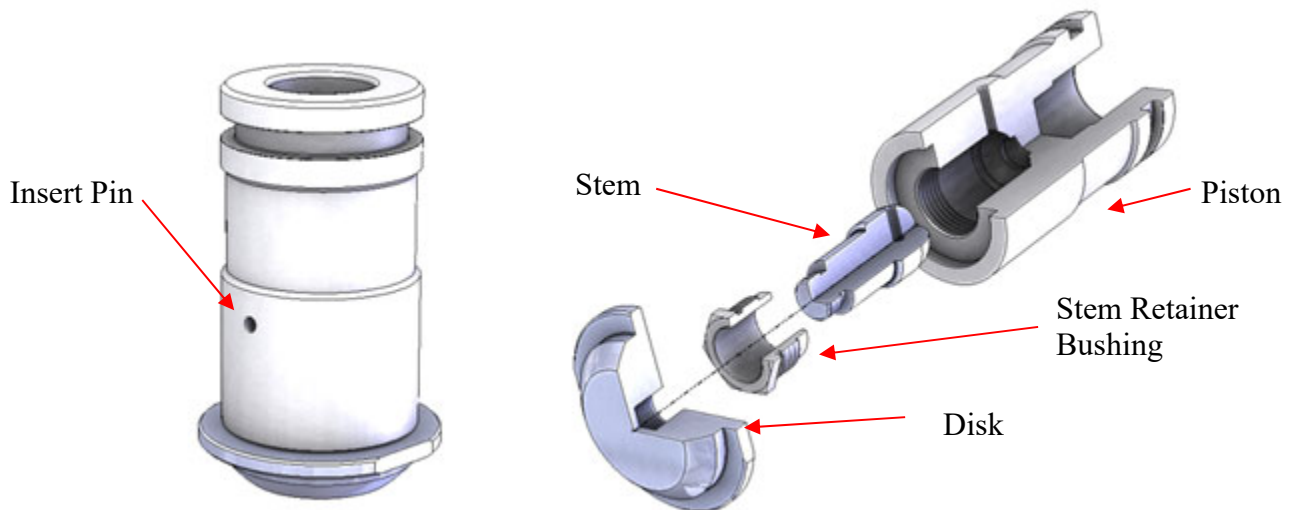

Figure 25: Piston Subassembly
- 7. Radially fix the inner stem by inserting a rigid steel pin into the outer hole of the piston sleeve. See Figure 25.
9. If the stem needs removal, keep the piston and inserted pin gently fixed and use a hex socket to unscrew the stem retainer bushing. See Figure 25.